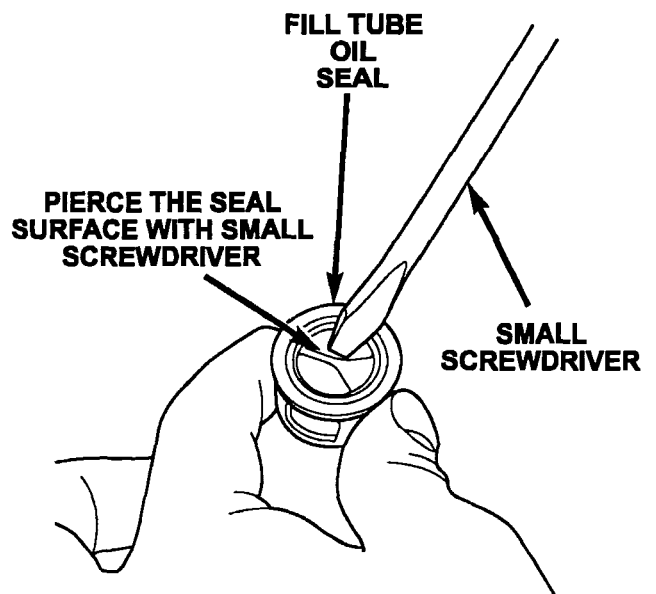

Figure 7
28. From the outside of the new seal, pierce the seal surface with a small screwdriver along the molded “Y”. This will make installing the fill tube easier (Figure 7).